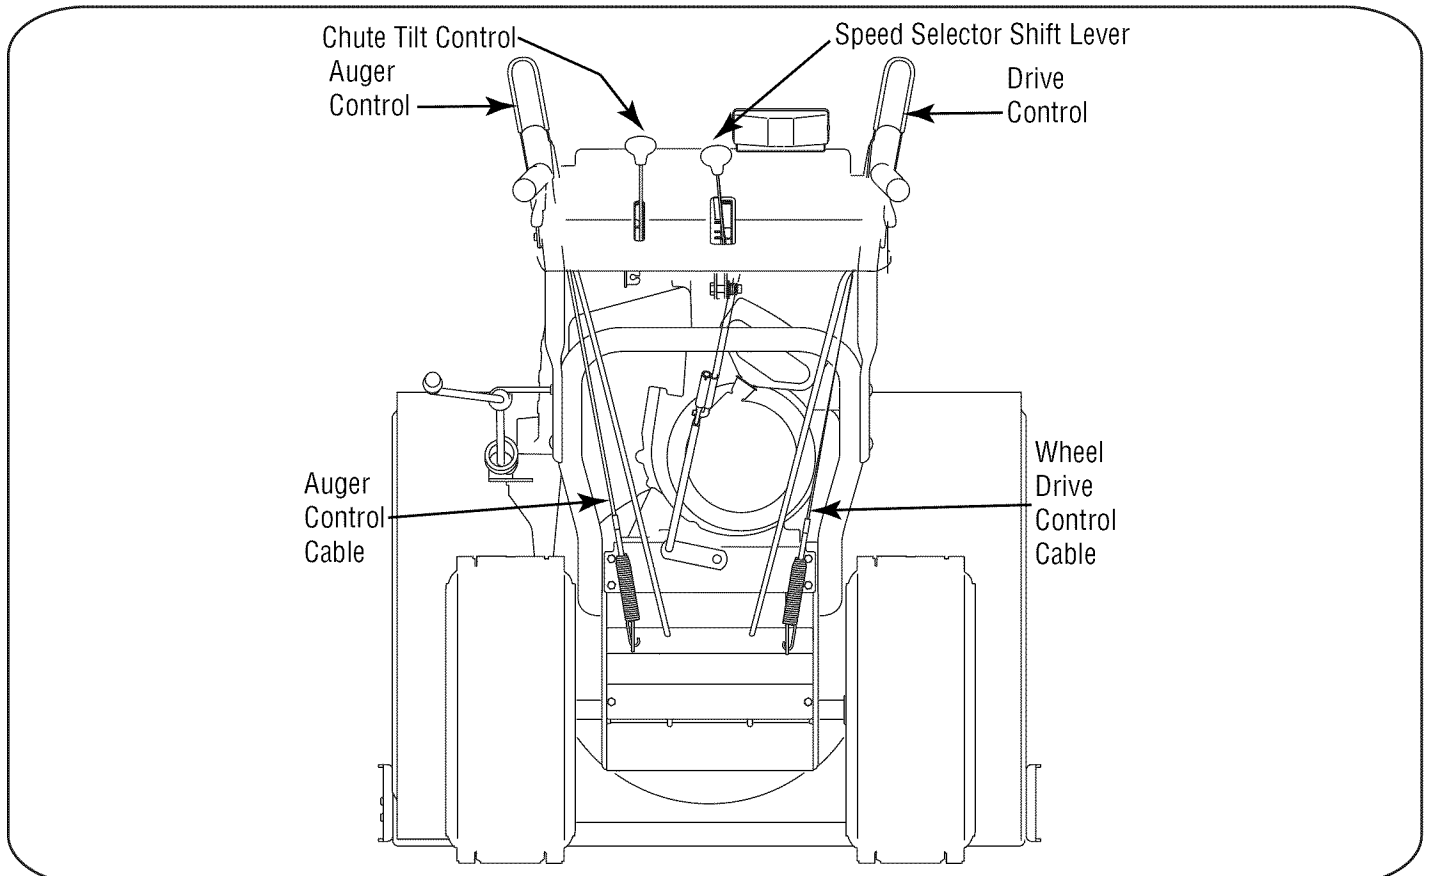

Figure 9
When the auger control is released and in the disengaged “up” position, the cable should have very little slack, but should NOT be tight. Refer to Fig. 9 for location of controls.
Refer to Fig. 9 for location of controls.
1. From beneath the handle, pull downward on the appropriate cable and unhook the spring found on the end of the cable from its respective actuator bracket. Refer to Fig. 9 and 10.